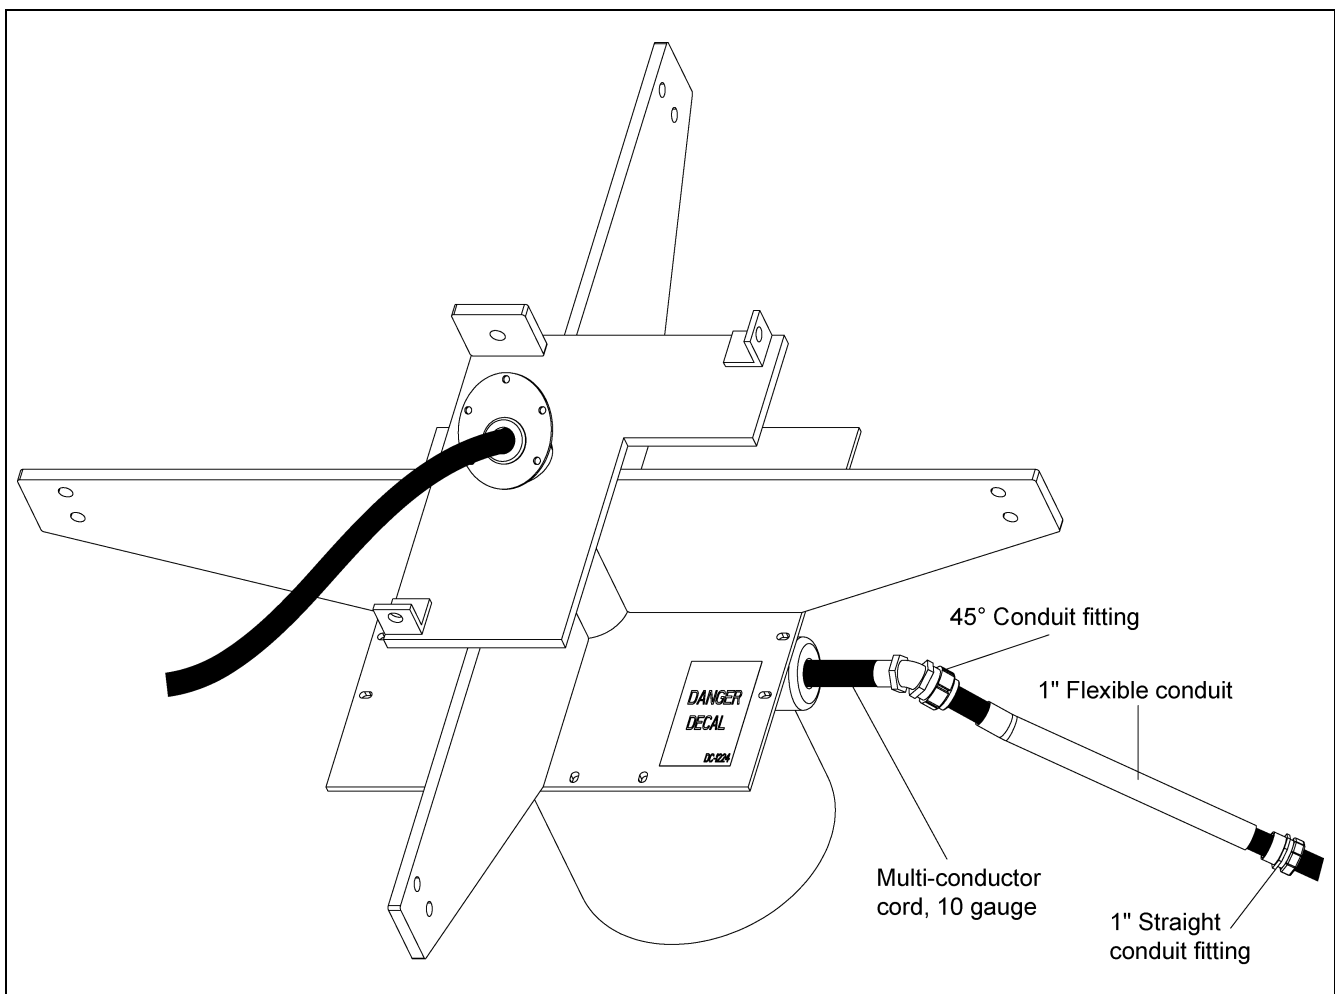

Figure 4D
14. Attach the 1" x 45° liquid-tight flex conduit coupling to the 1" conduit hub on the slip ring. Be sure to turn the conduit assembly down. (See Figure 4D.)